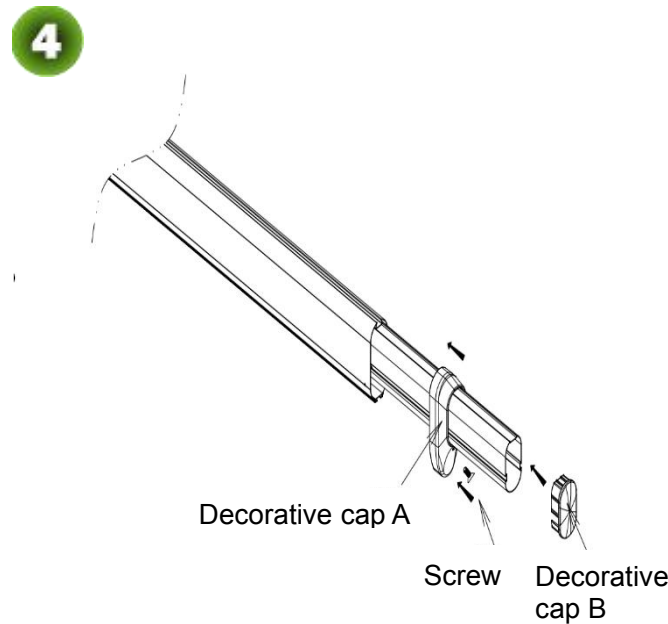

Figure 2-4D
- 5) Install decorative cap on the expansion boom, as shown in Figure 2-4D.